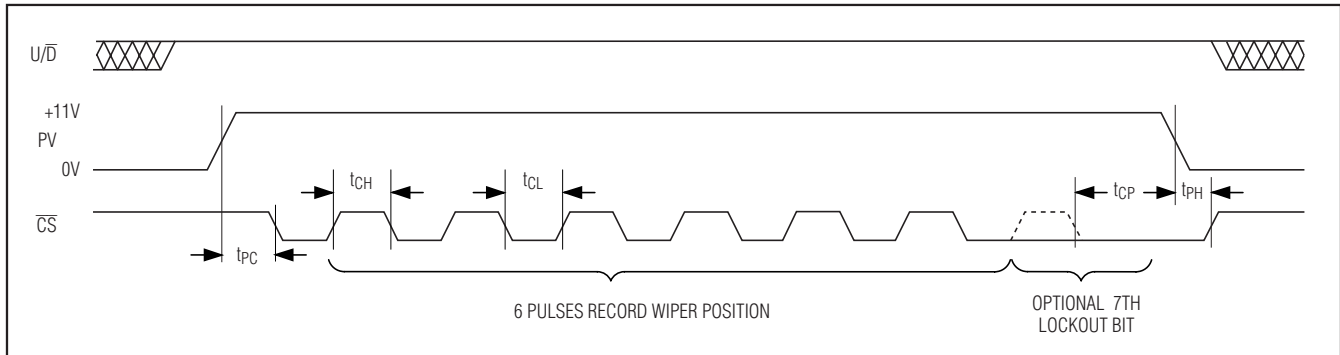

Figure 5. One-Time Program Mode, Serial-Interface Timing Diagram
| PV Rising Edge to \overline{CS} Falling Edge | t_{PC} | Figure 5 | 1 | | | ms |
| \overline{CS} Falling Edge to PV Falling Edge | t_{CP} | Figure 5 | 5 | | | ms |
| \overline{CS} Step Low Time | t_{CL} | Figure 5 | 5 | | | ms |
| \overline{CS} Step High Time | t_{CH} | Figure 5 | 5 | | | ms |
| PV Falling Edge to \overline{CS} Rising Edge | t_{PH} | Figure 5 | 1 | | | ms |
Change the wiper's power-up position using the PV one-time programming sequence after power-up (see Figure 5). After setting the wiper to the desired power-up position, perform the following six-step sequence:
- 4b) Pulse \overline{CS} high for seven cycles, consisting of \overline{CS} starting low and going high for at least t_{CH} and then low for at least t_{CL} , to change the wiper power-up position and lock the wiper in that same position. The seventh \overline{CS} pulse is labeled the optional lockout bit in Figure 5.